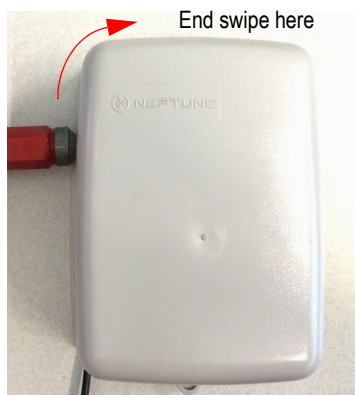

Figure 21 Activating the MIU
- 3 Position the magnet against the left side of the MIU directly in line with the Neptune logo, and swipe it bringing it from the side and around the corner to the top to activate the MIU. See Figure 21.